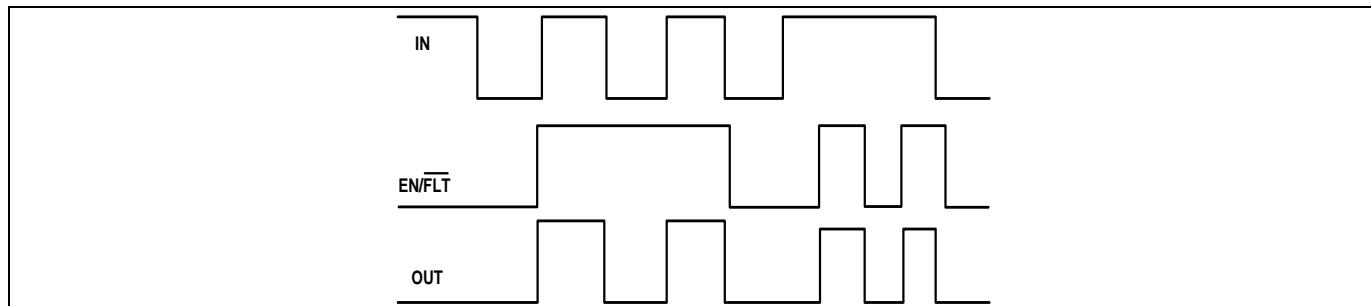

Figure 14 Input/output/enable pins timing diagram
The relationships between the input (IN), output (OUT) and enable (EN/ \overline{FLT}) signals of the 1ED44176N01F are illustrated below in Figure 14.